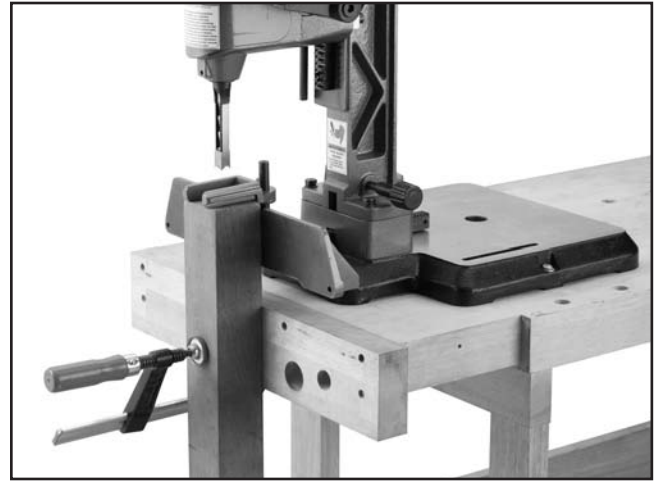

Figure 29. Column rotated 180° for larger workpiece.
6. Remount the column to the base with the hex bolts and washers removed earlier, as shown in **Figure 29**.
7. Place the workpiece flush against the fence and secure with a clamp, as shown in **Figure 29**.